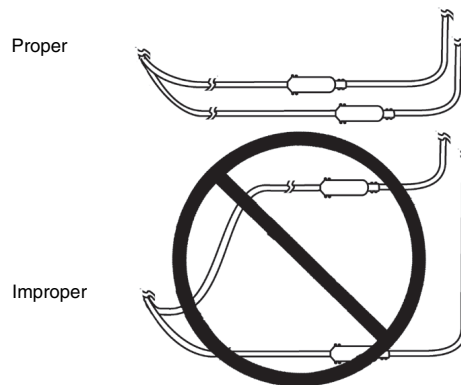

Figure 3. Routing for two lead-extensions (or two leads).
- When two leads are implanted, route the lead-extensions so the area between them is minimized (Figure 3). If the lead-extensions are routed in a loop and the patient is exposed to some sources of electromagnetic interference (eg, theft detectors), the patient may perceive a momentary increase in stimulation, which some patients have described as uncomfortable stimulation (jolting or shocking sensation).